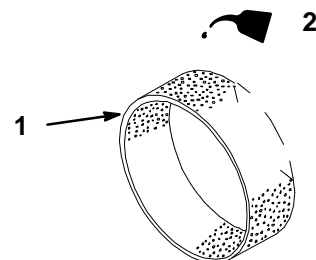

Figure 24
- C. Put one or two ounces of oil on the element (Fig. 24). Squeeze the element to distribute the oil.